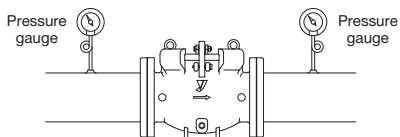

Fig. 1
1. Clogging condition inside the product can be known from the differential pressure measured when pressure gauges are installed before and after the product (see Fig. 1).